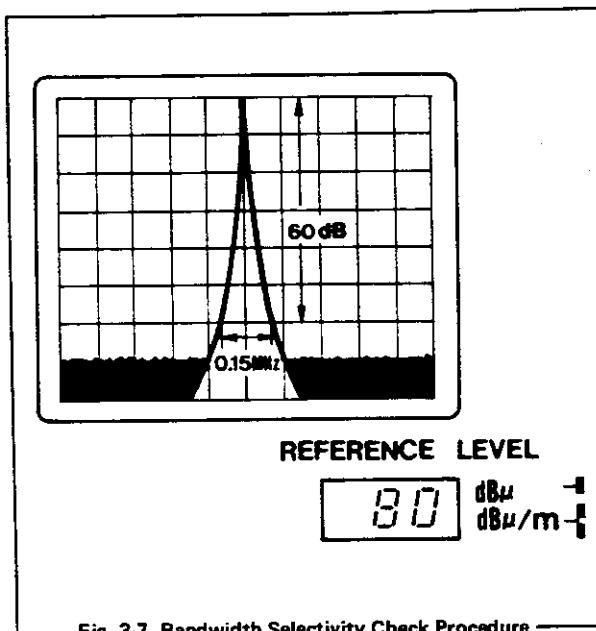

Fig. 3-7 Bandwidth Selectivity Check Procedure
- Adjust **IF GAIN-CAL.** to correspond the peak of 100MHz CAL. signal exactly to the horizontal top scale. [Fig. 3-7]